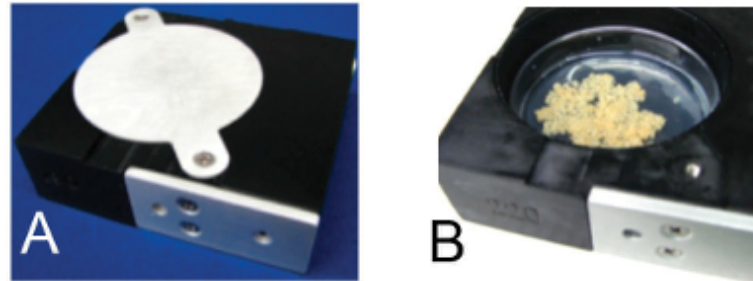

Fig. 1. A. View of an assembled PDFU. B. Callus culture on a 60 mm petri dish within a PDFU prior to closure (courtesy of A.L. Paul).
- Biological specimens are placed onto (or into) 60 mm petri dishes containing agar-solidified media or using alternative approaches (Fig. 1).